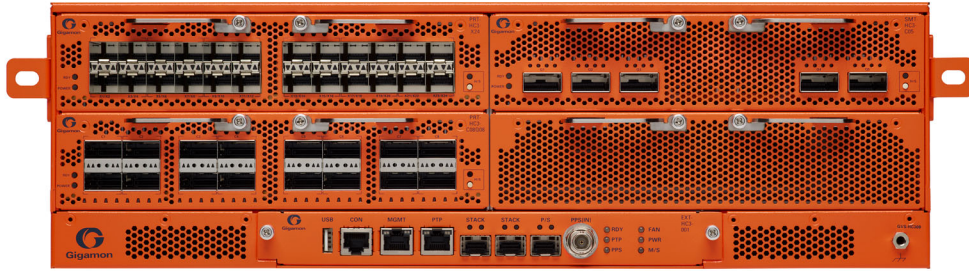

Figure 3-13: Modules Installed
4. Tighten the thumb screws on the levers, then use a Phillips screwdriver to tighten the screws. Refer to Figure 3-13 on page 67.